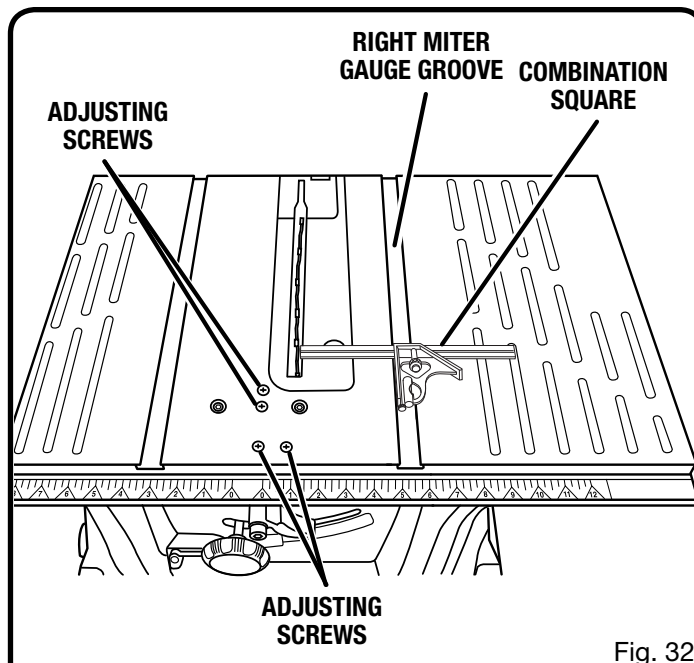

Fig. 32
See Figures 32 - 34.
- Mark beside one of the blade teeth at the front of the blade. Place a combination square even with the front of the saw table and the side of the saw blade as shown in figure 32.